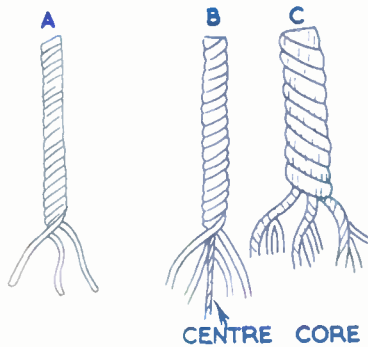

FIG. 2.
In order to make this clearer to the reader, in Fig. 2 we have examples of right- and left-handed ropes, (A) is hawser-laid rope, (B) shroud laid rope and (C) cable laid rope.